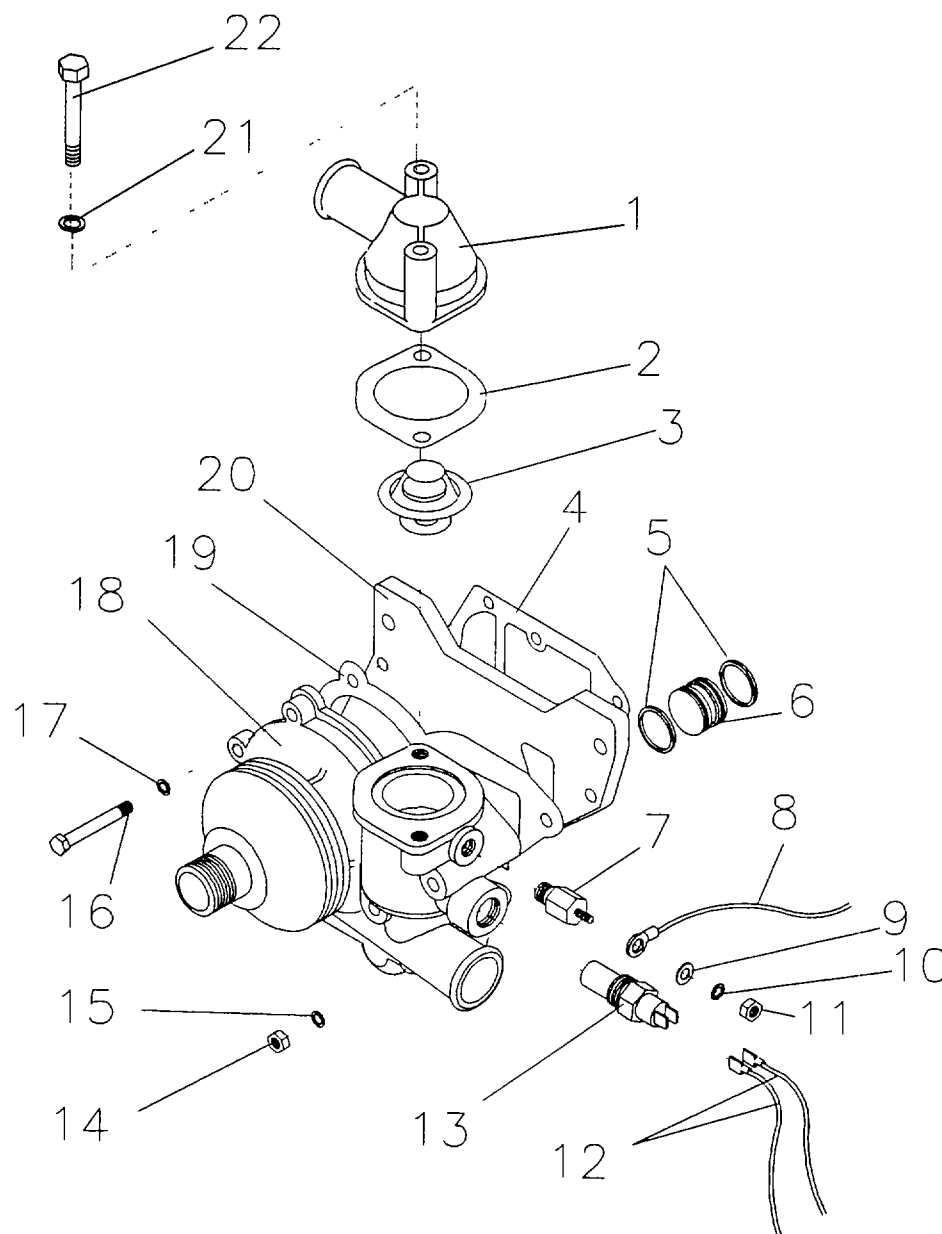

Figure 5-10. Water Pump Assembly.
a. Removal. Refer to figure 5-10
- 1) Remove screws (22), flatwashers (21), thermostat housing cover (1), thermostat gasket (2) and thermostat (3) Refer to paragraph 4.22
- 2) Remove nut (11), lockwasher (10) and flatwasher (9).
- 3) Tag and remove wires (8) and (12).
- 4) Remove engine temperature sending unit (7) and engine high temperature cutoff switch (13).
- 5) Remove five screws (16), two stud nuts (14) and flatwashers (15,17) from water pump (18) Remove water pump (18), gasket (19), mounting plate (20) and gasket (4).
- 6) Remove sleeve (6) and packings, preformed (5) Discard packings, preformed. Retain sleeve.
b. Installation. Refer to figure 5-10.
- 1) Install packings, preformed (5), and sleeve (6) into back of water pump (18)
- 2) Install gasket (4), mounting plate (20), gasket (19), water pump (18), flatwashers (17), and screws (16). Torque to 15.5 ft. lb /20 Nm.
- 3) Install stud nuts (14) and flatwashers (15) and torque to 12 ft. lb./16 Nm
- 4) Install engine high temperature cutoff switch (13) and engine temperature sending unit (7).
5) Install wires (8) and (12)
6) Install flatwasher (9), lockwasher (10) and nut (11)
7) Install thermostat (3), thermostat gasket (2) and thermostat housing cover (1), flatwasher (21) and screws (22). Refer to paragraph 4.22.